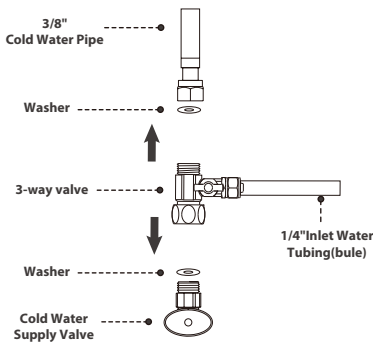

Figure 4
4. Twist the feed water adapter onto the cold water supply valve (with its washer) and tighten it with an adjustable wrench (Figure 4).
3. The gray piece indicated by the arrow is the quick-release clamp Figure 4.